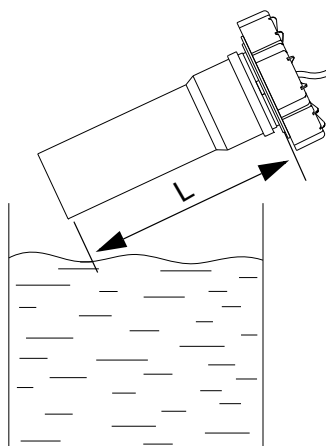

Fig. 17 Piezo sensor length
4. Type in the length [L] (mm) of the pipe and press "OK". See fig. 17.